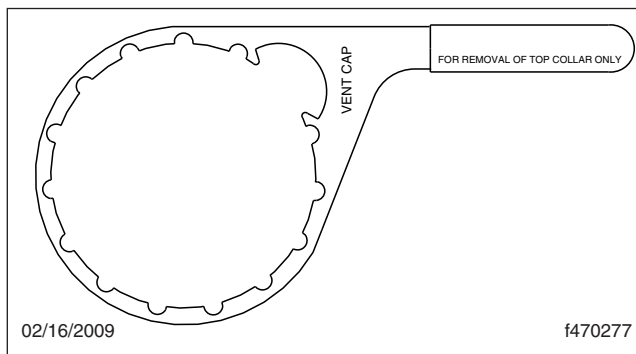

Fig. 24.3, DAVCO Collar Wrench
5. Using a DAVCO collar wrench, remove the collar. See Fig. 24.3. Do not use pliers or channel-lock pliers.